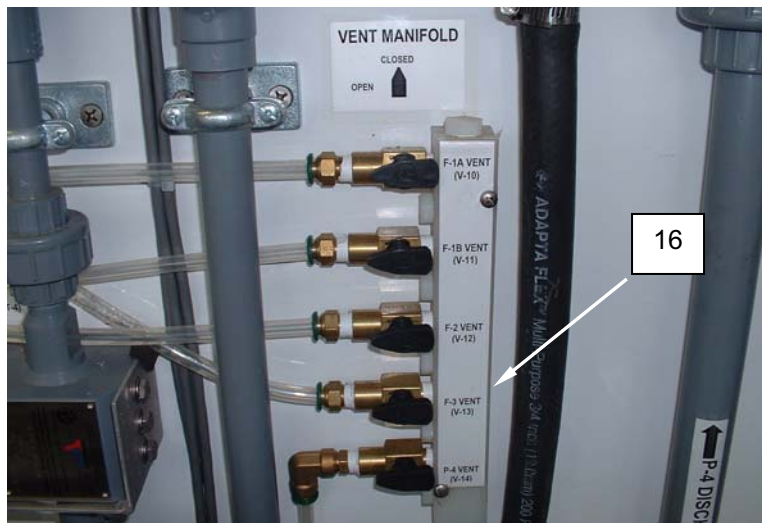

Figure 16. Sodium Bisulfite Preservation Procedure.
17. Open all valves on the vent manifold (Figure 16, Item 16).